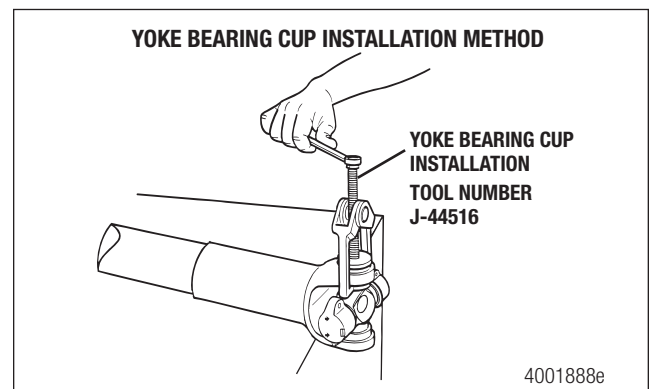
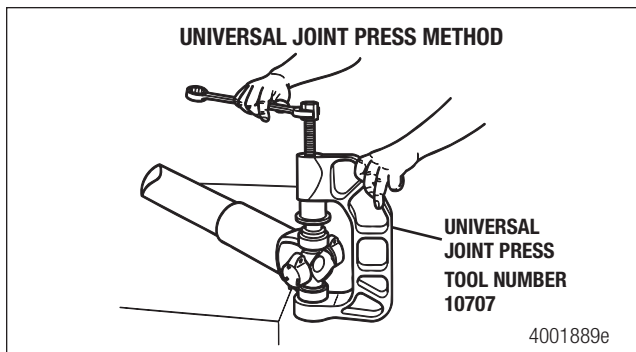
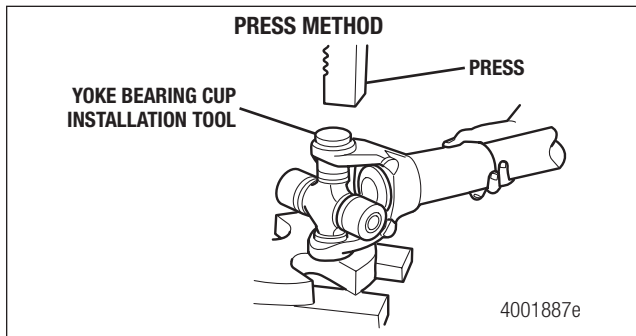

Figure 5.55
Figure 5.56
Figure 5.57
5. Use a press, yoke bearing cup installation tool (SPX Kent-Moore tool number J-44516) or universal joint press (Tiger Tool number 10707) to install the first round bushing slightly past the snap ring groove. When the bearing cup installation tool contacts the yoke, it is installed correctly. Figure 5.55, Figure 5.56 and Figure 5.57.
8. Use a press, yoke bearing cup installation tool (SPX Kent-Moore tool number J-44516) or universal joint press (Tiger Tool number 10707) to install the second round bushing slightly past the snap ring groove. Check that the bushing is aligned with the universal joint. Figure 5.55, Figure 5.56 and Figure 5.57.